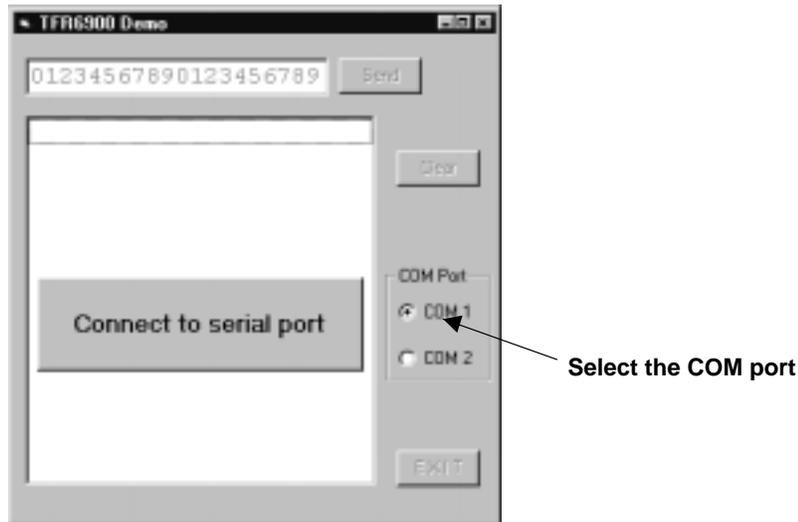

Figure 11. Initial State of the TRF6900 Demo
5. Starting the TRF6900 demo software; the window in Figure 11 comes up: